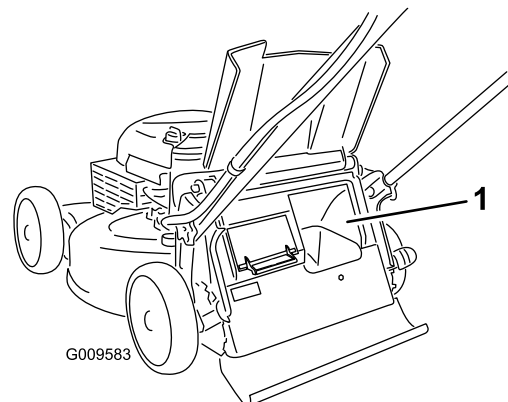

Figure 23
**Important:** For proper operation, remove any grass clippings and debris from the bag-on-demand door and the surrounding opening (Figure 23) before you move the bag-on-demand lever from one position to another.